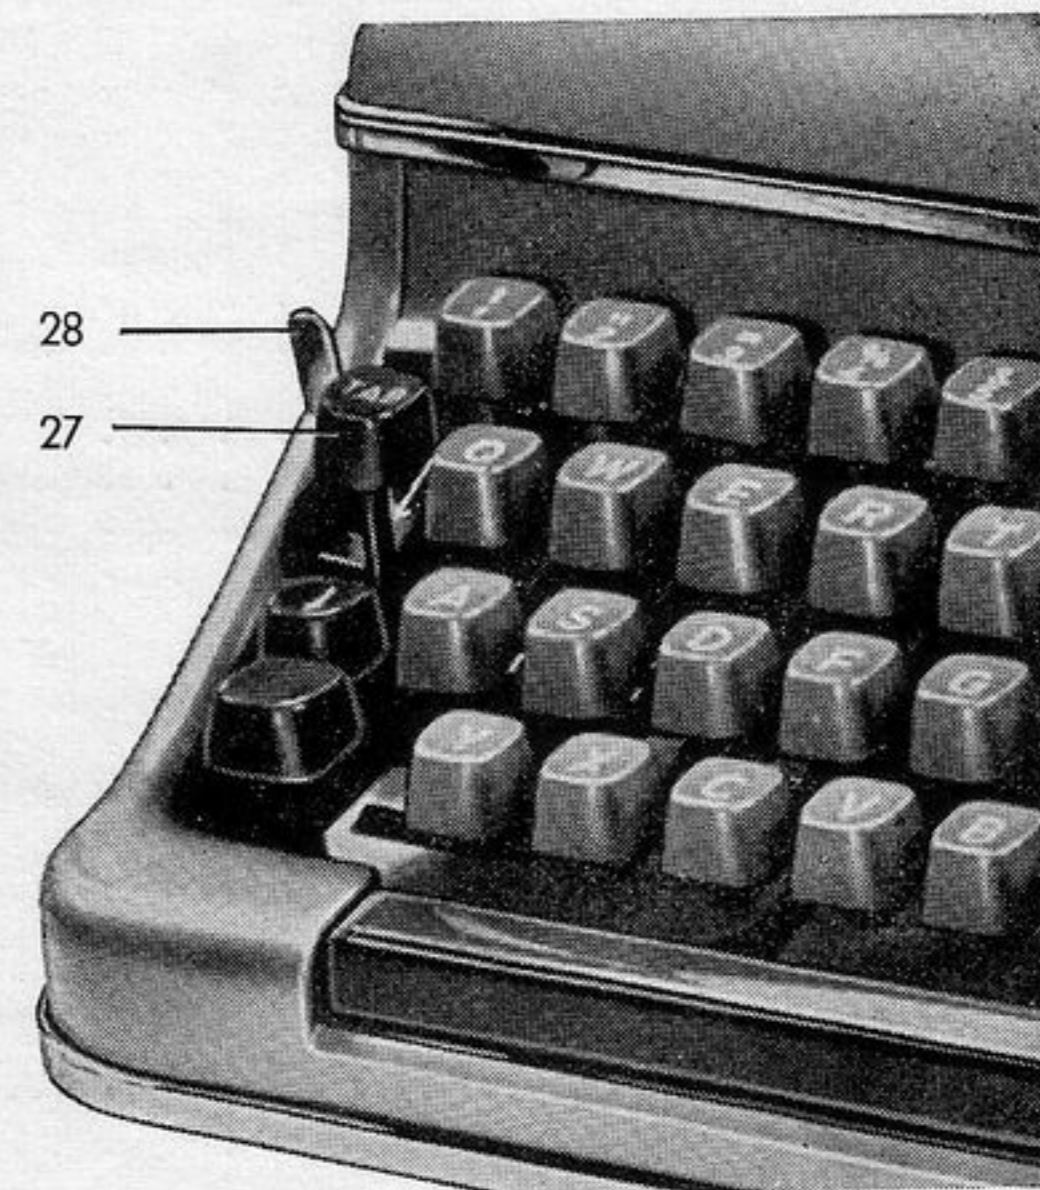

Fig. 7
If the machine has a tabulator, then please note the following: The tabulator key 27 (Fig. 7) and the single setting and release key 28 are situated